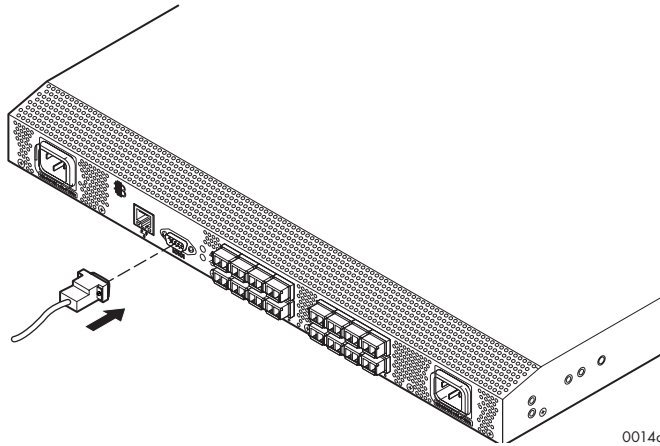

Figure 14: Connecting the serial cable
2. Connect the serial cable to an RS-232 serial port on the workstation (Figure 14).